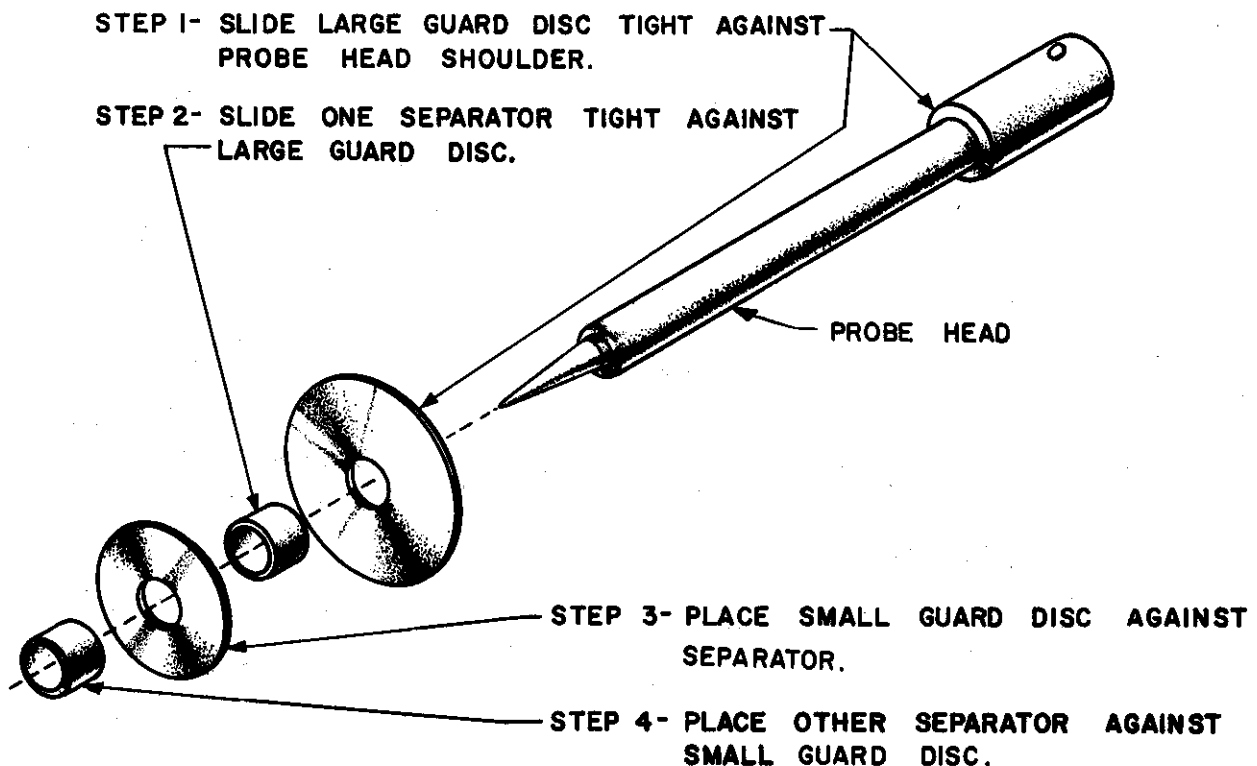

FIGURE 1. MOUNTING THE GUARD DISCS AND SEPARATORS
SEE FIGURE 1.
- ☑ As shown in Figure 1, place the large guard disc tightly against the shoulder of the probe head. Next, slide a separator tightly against the large disc, then the small guard disc, and finally the other separator. Be sure all are forced tightly together.